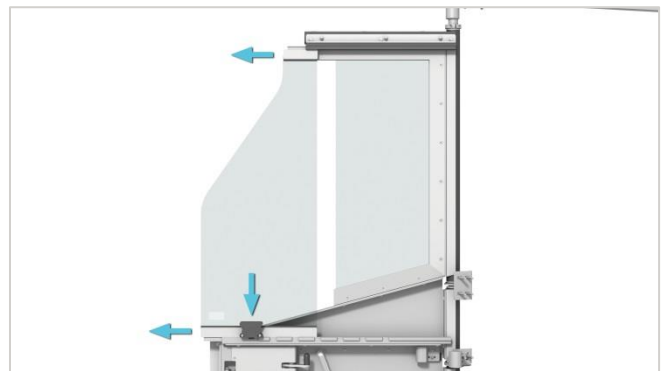

Figure 2 – Removal/replacement of sliding sash/front glazing.
1. Reinstall the sliding sash by sliding the lower T-rail into the lower slider track. Disengage the rocker latch and gently slide the sash inward. Align the upper T-rail and upper slide track. Continue sliding the sash inward until the slider sash stops can be reinstalled. See **Figure 2**.